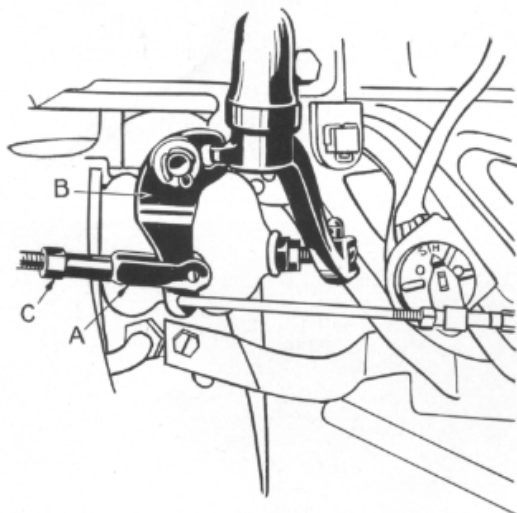

Figure 9
lobe on the power cylinder shifting lever checked to see that there is no binding due to contact at points other than the ends of the bellcrank fork (B), Figure 9.